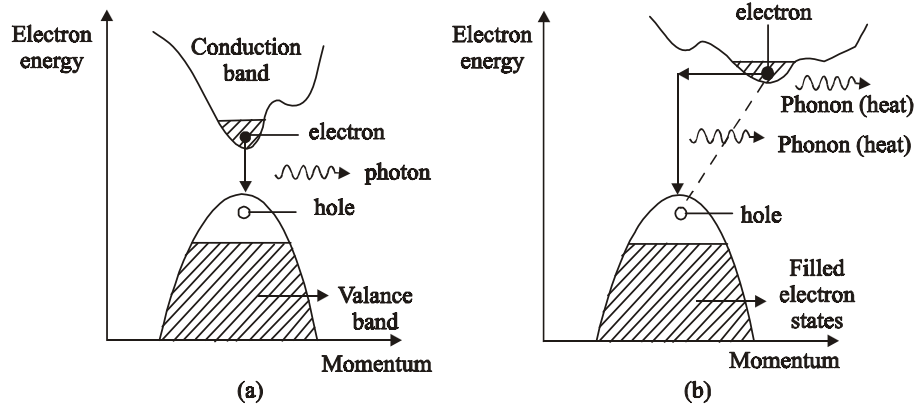

Fig. 2.2 Energy - momentum diagram
The electrons and holes in a semiconductor have energy and momentum. The momentum (k) depends on energy (E). A plot of energy versus momentum is as shown in fig. 2.2